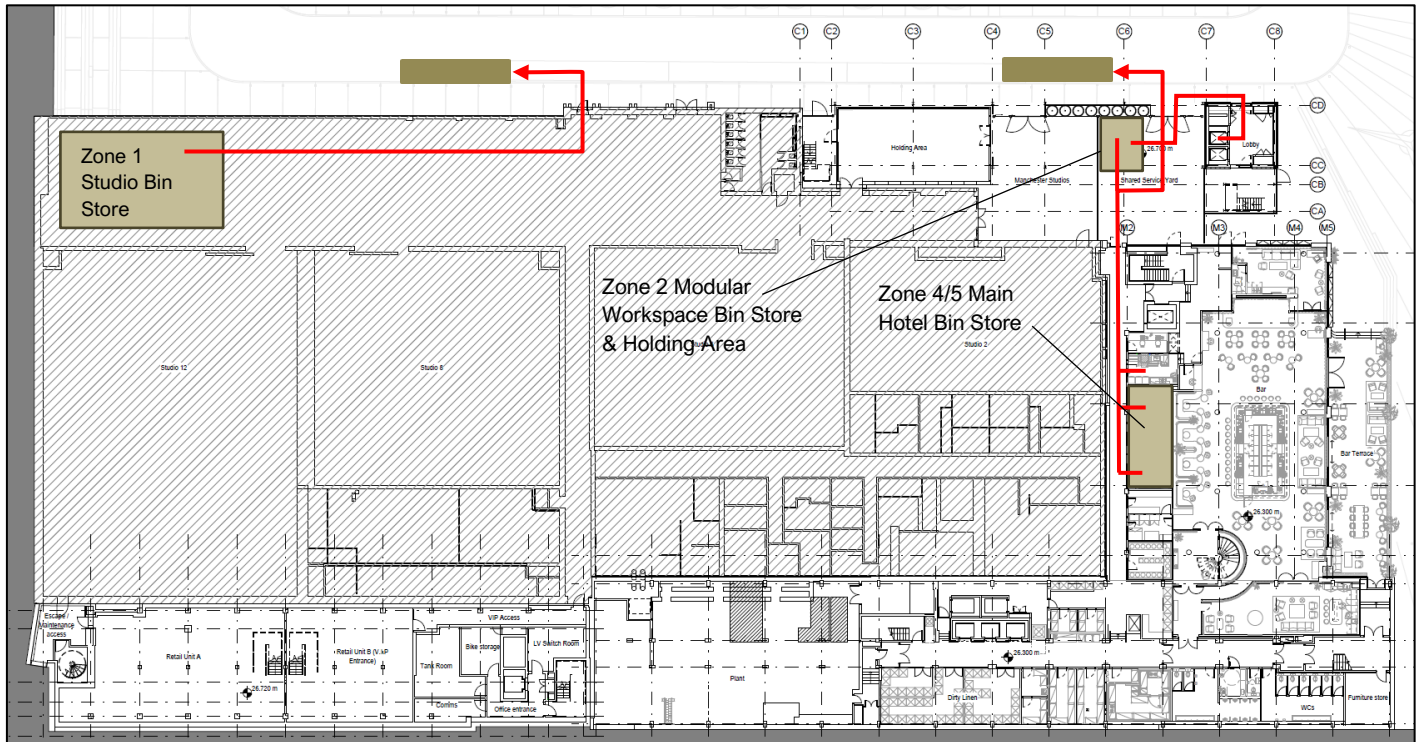

Figure 5.1 Bin Store Provision & Routeing - Lower Ground Floor Zone 1,2,4&5
- 5.3 The Waste transfer routes to the bin stores and their route to the collection points are indicated in the **Figures 5.1 to 5.4** below. Where waste needs to be transferred between level there is an appropriate lift to transfer. The transfer routes are all step free, and the door widths are no narrower than a minimum of 1.3m in width.